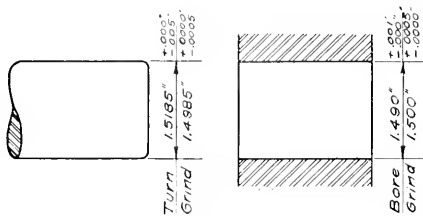
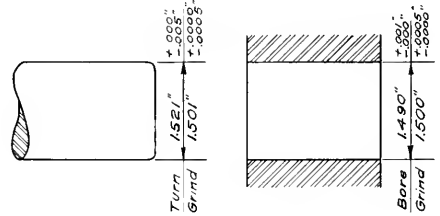

Fig. 1. Shaft and Hole 1 1/2 in. Nominal Diameter Dimensioned for Running Fit
Fig. 2. Shaft and Hole 1 1/2 in. Nominal Diameter Dimensioned for Light Driving Fit
**Basic Dimension:** The basic dimension is that dimension which defines the more vital of the two limits. The application of the tolerance to the basic dimension fixes the other limit. In general, the basic dimensions of a male surface is the maximum limit, and requires a minus tolerance. Similarly, the basic dimension of a female surface is the minimum limit, and requires a plus tolerance. (See Fig. 1 and Fig. 2).